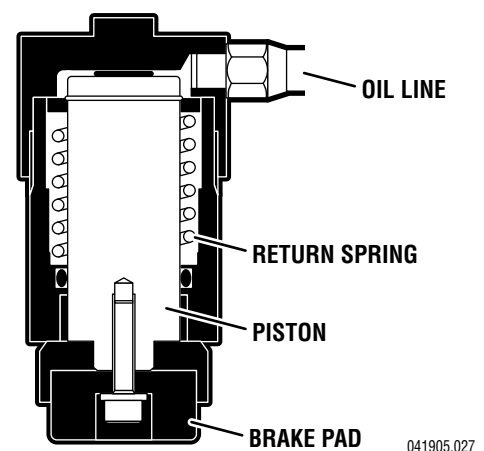

Figure 1-13. Single Action Brake Cylinder
6. **Brake Cylinders** - The brake cylinders are single action type similar to the elevation cylinder. The movable piston's ram is connected to a brake pad. See figure 1-13. Oil pumped into the top of the cylinder pushes the piston down raising the table base off its casters. An internal return spring on the bottom of the piston, pushes the piston up to return the oil through the mini-valve to the reservoir.